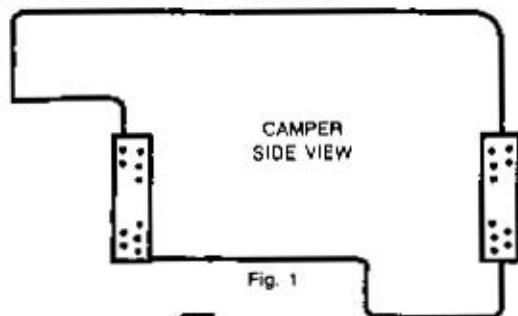

Fig. 1
1. Mount the brackets on the four outside corners, starting with the two front brackets. Mount top of rear brackets same height as top of front brackets. (Fig. 1)